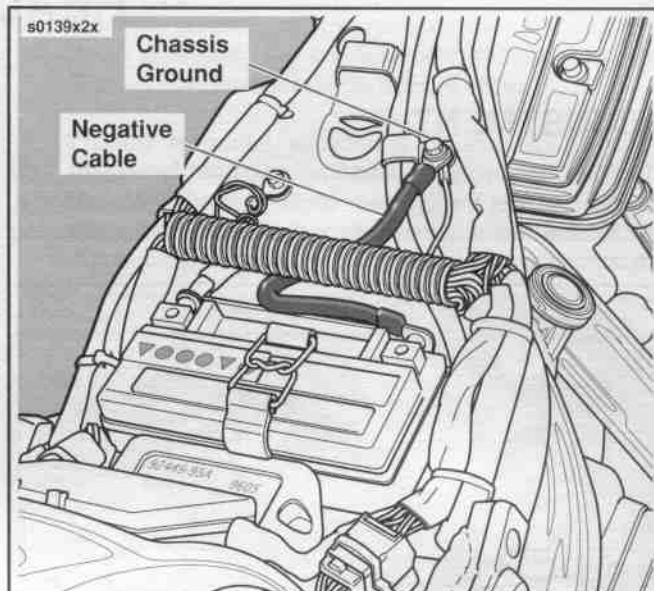

Figure 8-29. Negative Cable Routing
7. See Figure 8-29. Route negative cable under wire harness to negative battery terminal.